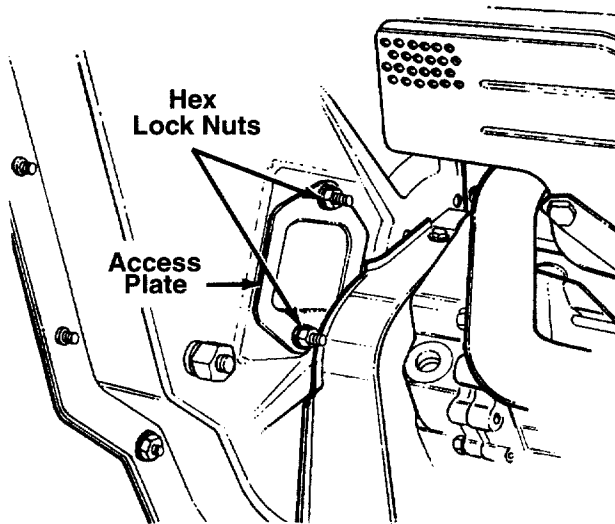

Figure 15
4. Open access plate by removing the two hex lock nuts. See Figure 15.